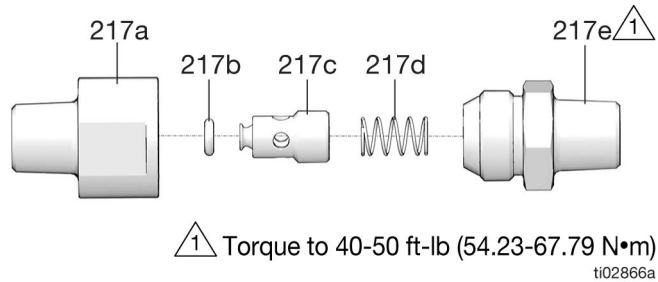

FIG. 20:
2. Remove the outlet check valve assembly (217).
3. Remove the top piece of the outlet check valve (217e), spring (217d), and piston (217c) (FIG. 20).